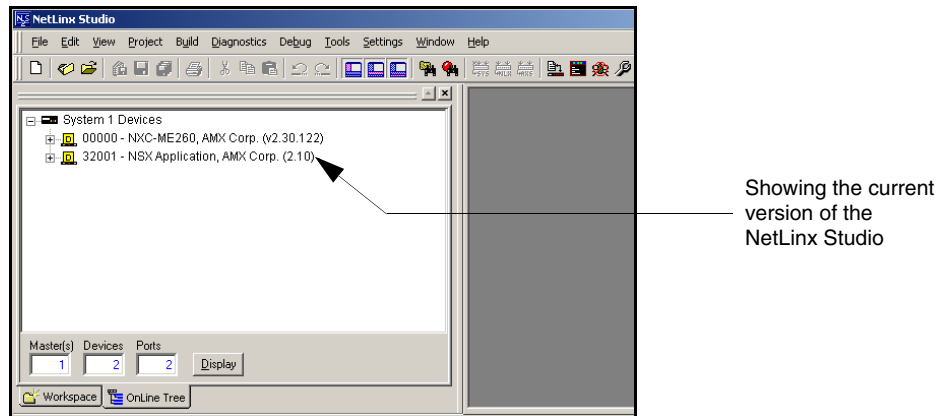

FIG. 17 Initial NetLinX Workspace window (showing the OnLine Tree tab)
1. Click on the **OnLine Tree** tab in the Workspace window to view the devices on the System. *The default System value is one (1).*
3. After the Communication Verification dialog window verifies active communication between the PC and the Master, verify the NetLinx Master appears in the **OnLine Tree** tab of the Workspace window (FIG. 17).